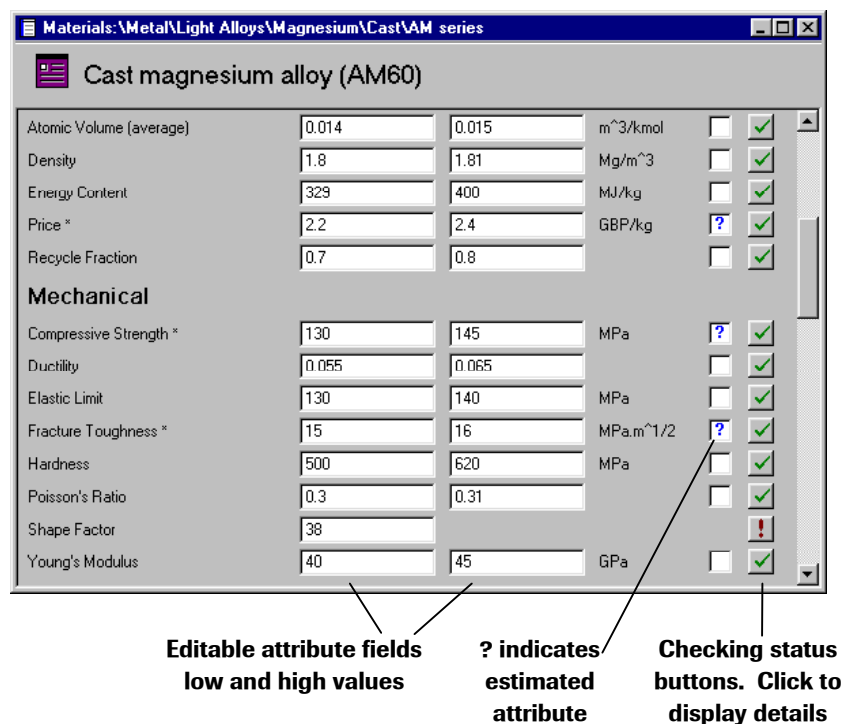

Fig. 10.3 The *Datasheet Window*.
**Scroll through the record until the Mechanical properties are visible, (Fig. 10.3).**
The information displayed for the material in the *Datasheet Window* (figure 10.3) is similar to what you would see in *Datasheet Window* in SELECTOR. The numbers in the white boxes are range attributes which can be edited. The buttons down the right side of the window are the data checking buttons. The green tick marks  indicate that these attributes have all passed their automatic data checks. (The concepts behind the automatic data checking are described in Section 9.10.3.) The blue  symbols in the second column from the right indicate that some attributes are uncertain or estimated.